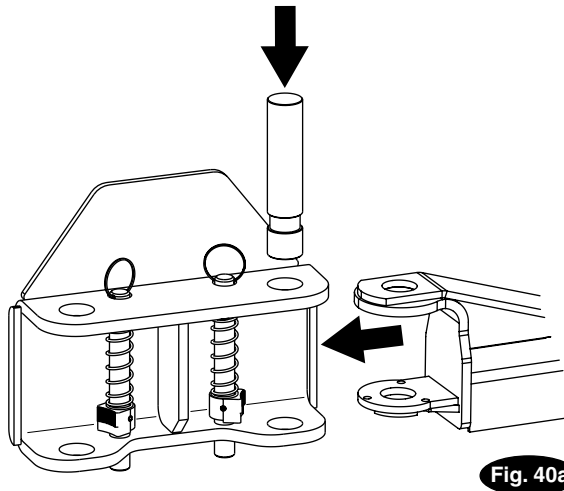

Fig. 40a
31. Arms & Restraints: Before installing arms, raise carriages to a convenient height. Grease swivel arm pins and holes with Lithium grease. Slide arm into yoke, Fig. 40a. Install 1-3/4" diameter arm pin(s), Fig. 40a.